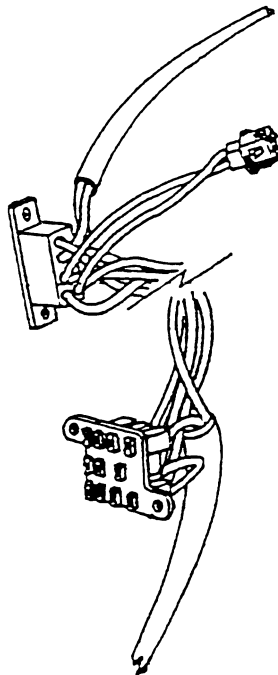

Figure 1
3. Plug the two way plug of the counter into the two-way cap of the door harness. (See figure 1 below).